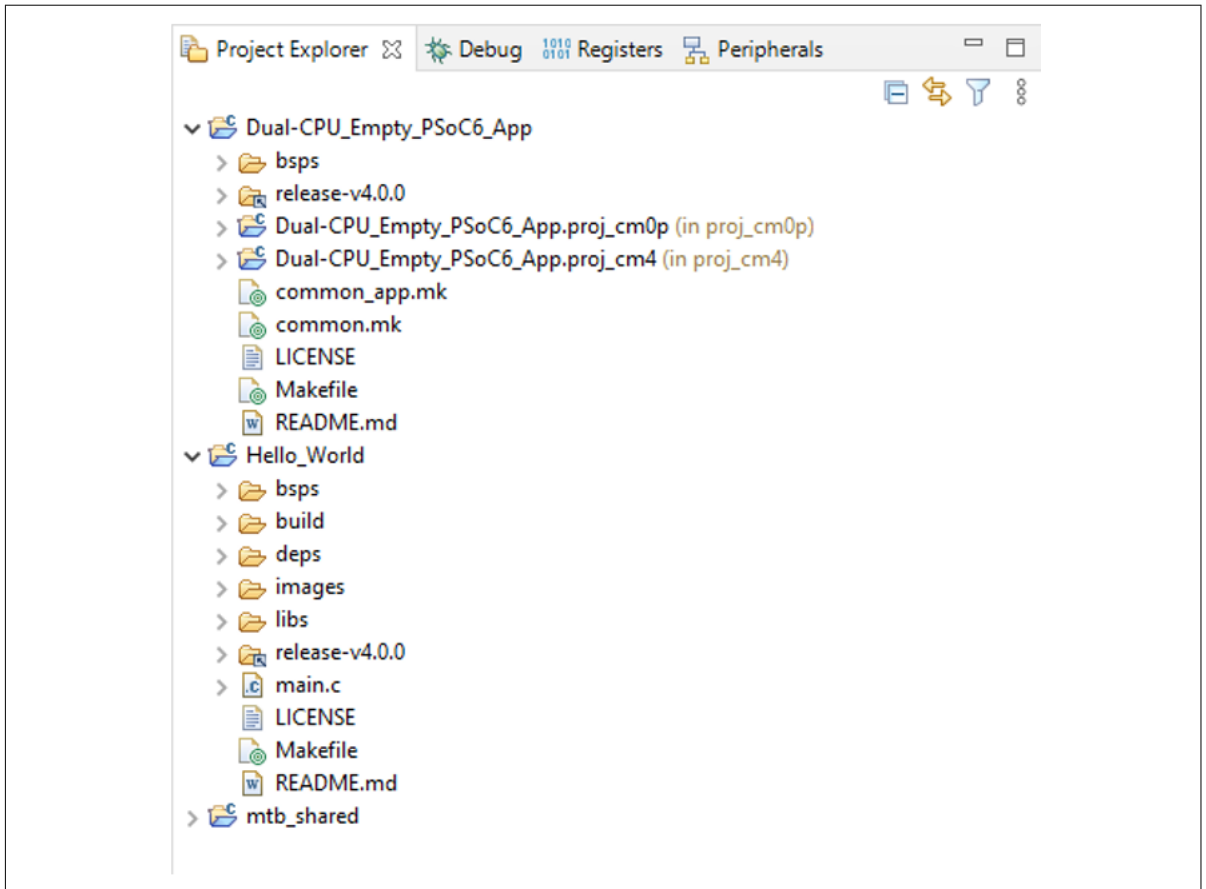

Figure 2 Workspace in ModusToolbox™ containing both single-core and dual-core applications
5. In Figure 2, you see both applications created in the workspace.